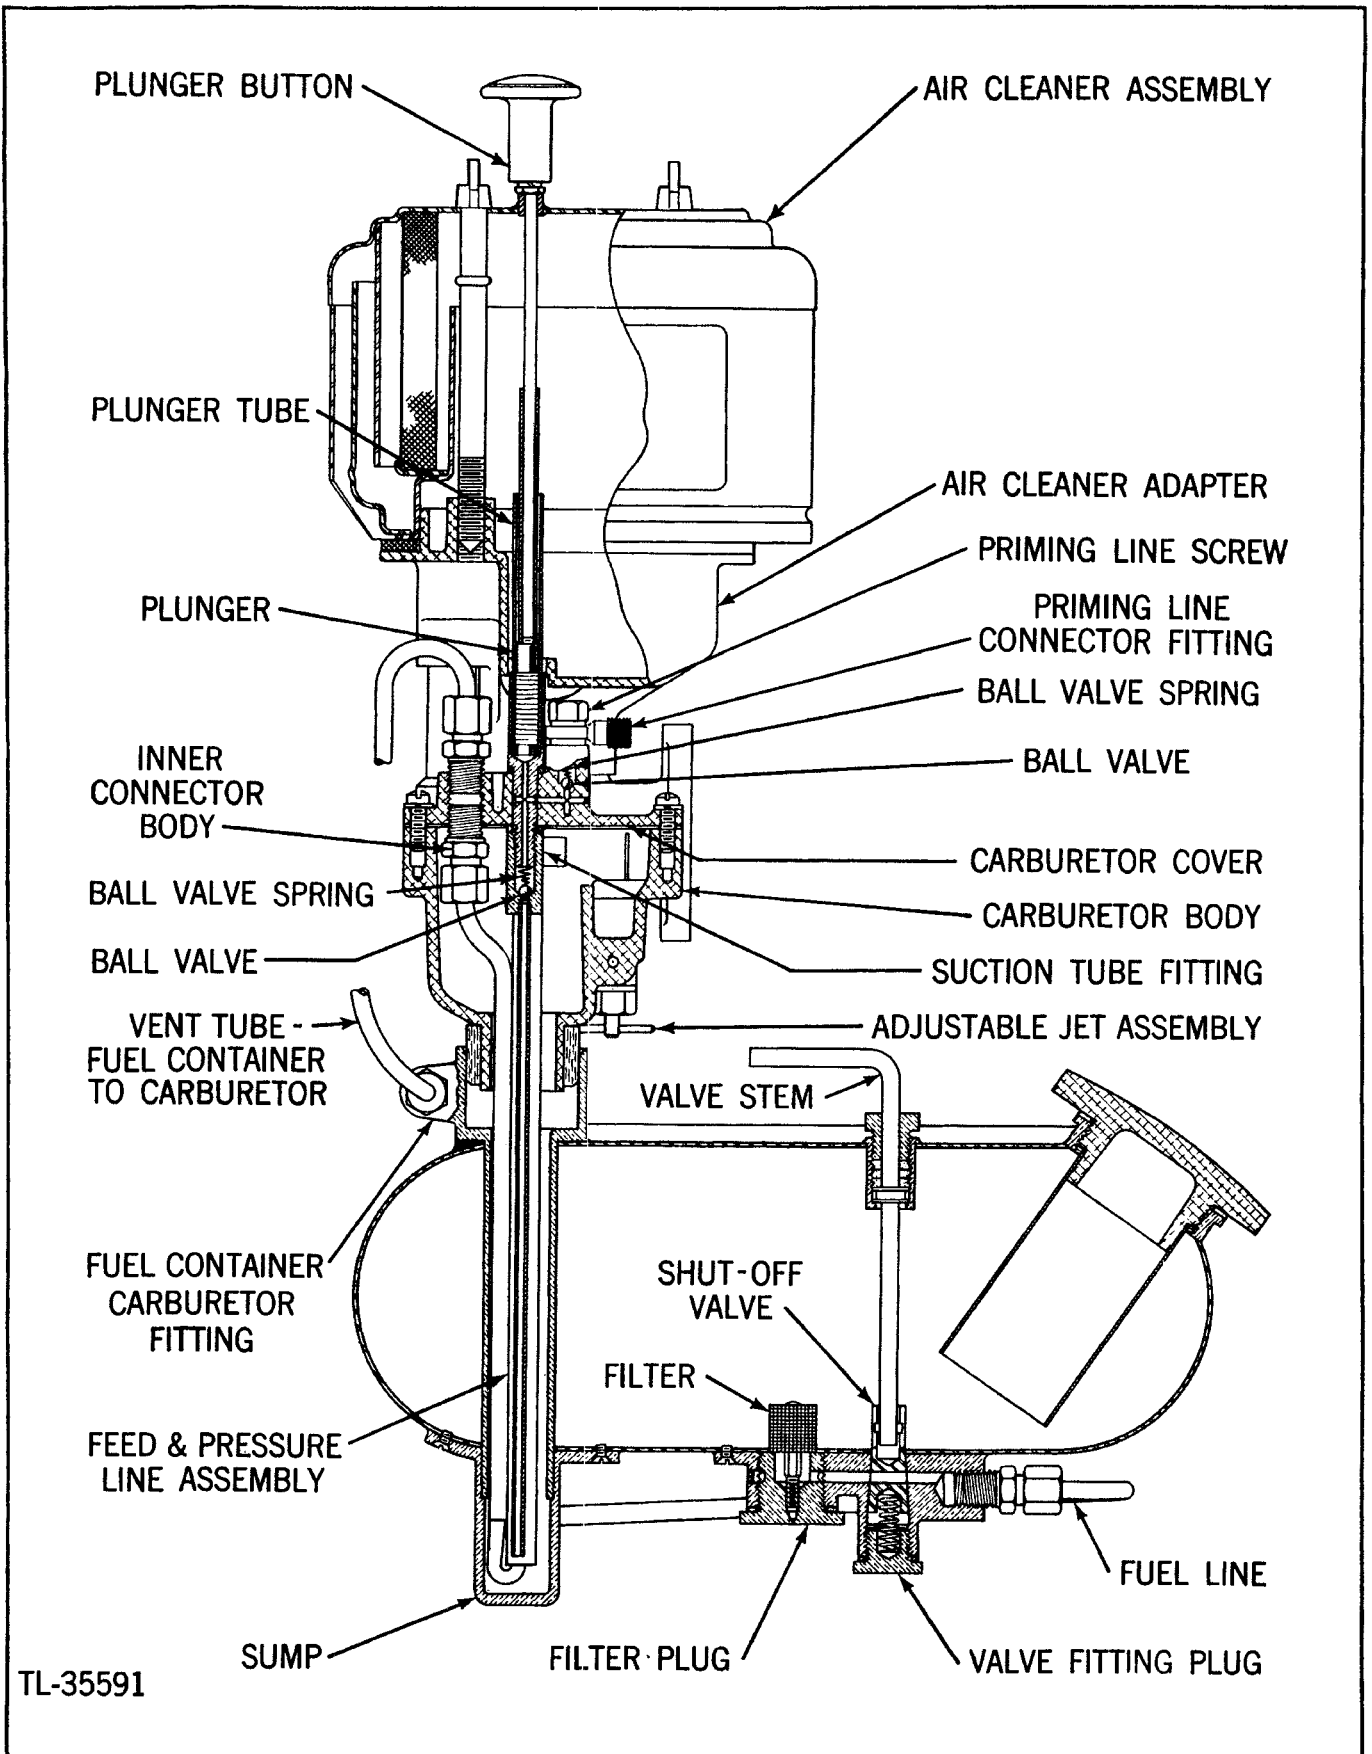

Figure 8. Carburetor and fuel-container assembly
(3) TO DRESS CONTACT POINTS. If contact points appear pitted or uneven upon inspection, they can be restored to a true, even condition with the contact-point dressing tool (ref. 190). If points are badly pitted and cannot be made even with the dressing tool, they should be replaced. This will probably be necessary after 700 hours of operation.
(4) TO REPLACE CABLES. Chafed or broken cables which cause continuous or intermittent misfiring should be replaced. Strip the magneto end of the cable $\frac{1}{2}$ inch; then twist the strands together and fasten to the coil. *It is essential that the bare end be kept short and folded close to the coil surface after cable is in place.* Make sure there are no stray ends sticking out. On the spark plug end, strip cable $\frac{1}{4}$ inch and insert it into the molded tube so that the bare end goes through the brass insert at the base of the spring. Fan out the strands of the wire to hold it in place. Do not solder the wire on either end.
(5) COIL AND CAPACITORS. If no spark is obtained after adjusting the contact points, the trouble probably lies in either the capacitors or the coil windings. However, replace these parts only after checking points, connections, and cables. The capacitors may be replaced in the field, but the coil windings should be checked in a Signal Corps depot before removal. Replacing this winding is a delicate operation and should be done only at a Signal Corps depot. See section V for test data and removal instructions.
(6) MAGNET. With normal use, the magnet will retain its magnetism indefinitely; therefore no trouble should be expected from this source.
(7) CAM WIPER. The felt cam wiper should be inspected every 350 hours. If it is dry, lubricate it with oil. If the felt is badly worn, replace it. This will probably require replacement after 700 hours.
(8) CLEANING. If an excessive amount of oil and dirt is found when inspecting the contact points, it should be carefully wiped out with a clean, dry cloth.
c. Carburetor Assembly and Fuel Container (fig. 8).
(1) ADJUSTABLE-JET ASSEMBLY. (a) The adjustable-jet assembly should be removed and cleaned every 100 hours of operation. Remove assembly by using a wrench (ref. 207) on the hex section. Remove the adjusting needle from the nozzle by screwing it counterclockwise; then wipe it with a clean cloth. Blow through the nozzle to remove any dirt. *Do not use a wire to clean the nozzle as this will cause burrs which affect*